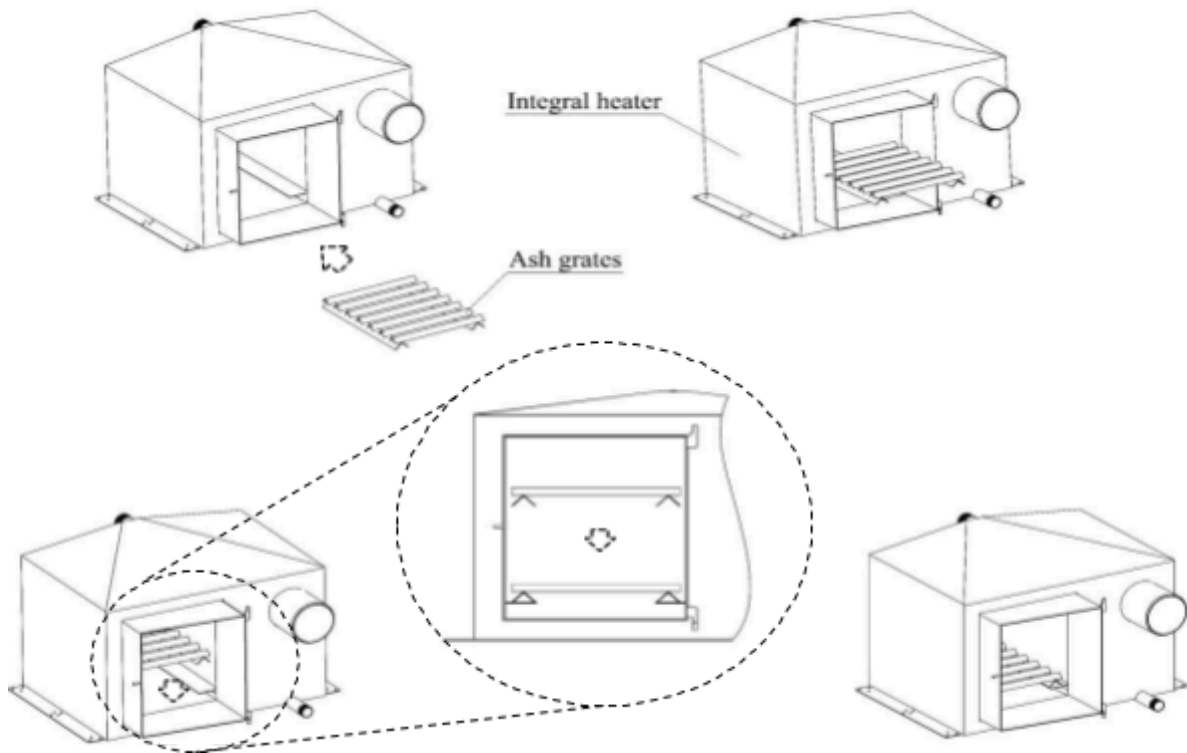

Figure 7. Placement of the ash grates (Assembly step 5).
- Step 5. Put in the ash grates inside the integral heater (see Fig. 7).
can be used as a household possession of the end users, or can be ordered together with integral heater as a heater cleaning tool kit. Cleaning of integral heater includes few simple stages: a) taking out all unburned firewood; b) taking out the ash grates from a heater (see Fig. 7, reversed order); c) scrubbing-off of the scorched ash and soot from the inner walls of integral heater (using sparkler); d) removal of the ash drawer out of integral heater (see Fig. 8, reversed order); e) and pouring out the ashes from the ash drawer. It is not mandatory to wash or wet clean the integral heater, but if it would be done, manufacturer do not recommend to use any products with chlorine, as this could have unfavourable effect to the material of the heater. After the cleaning of integral heater, ash grates should be placed back in (see Fig. 7), and the ash drawer should be set in the closed position (see Fig. 8c).